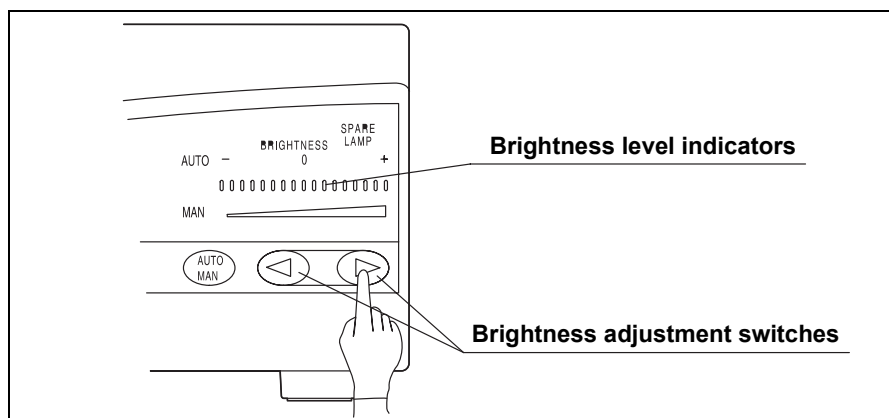

Figure 4.13
2. Press the brightness adjustment switches ("◀" or "▶") and confirm the following (see Figure 4.13):